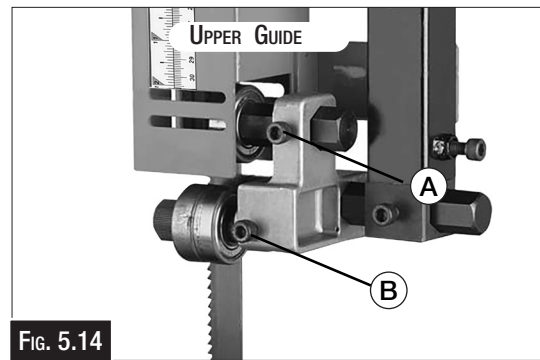

Fig. 5.14
3. Familiarize yourself with the support bearing controls shown in Fig. 5.14
4. Loosen the socket head cap screw on the support bearing adjustment shaft. (A in Fig.5.14)